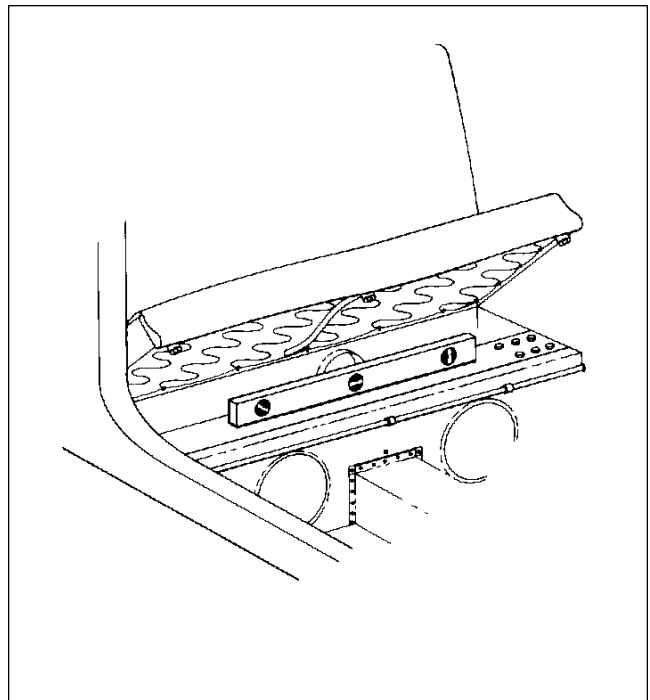

Figure 8-2. Leveling Laterally
B. Laterally level airplane as follows (Refer to Figure 8-2):